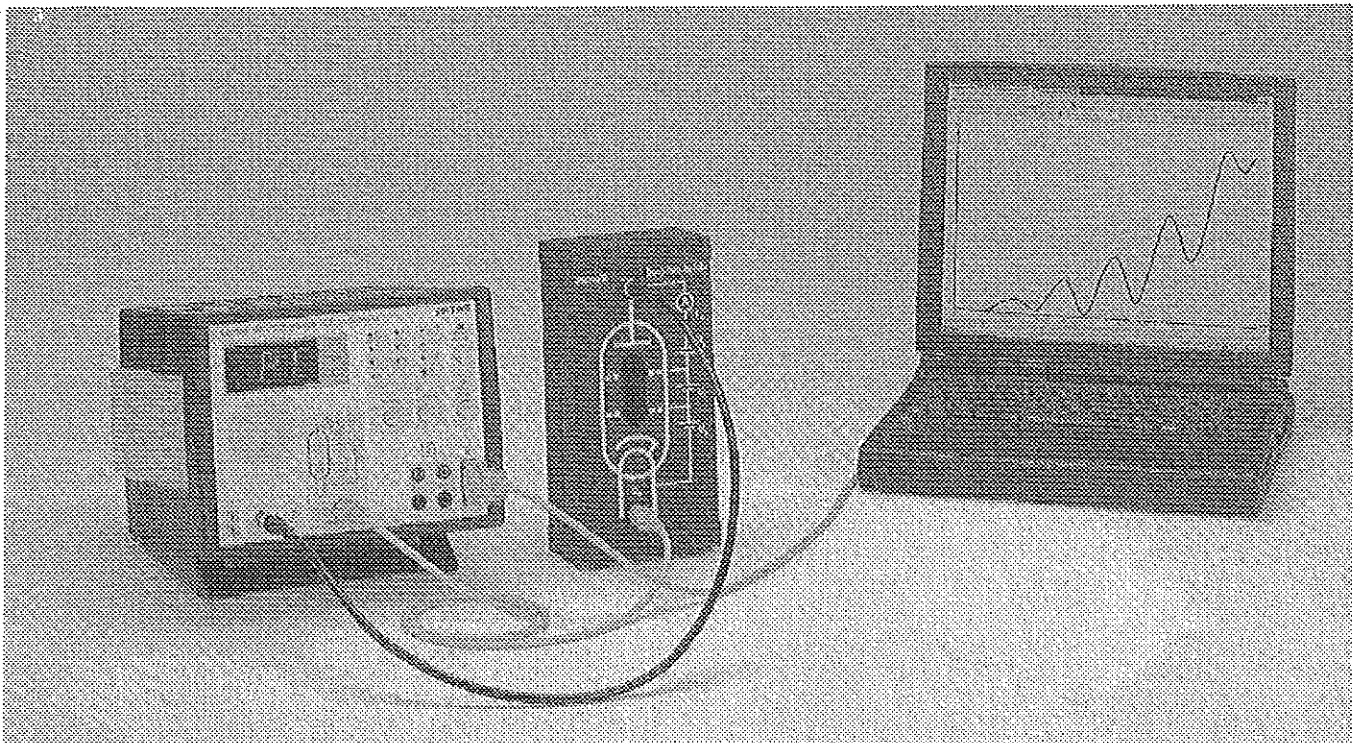

Fig. 7 Complete set-up for Franck-Hertz experiment with the neon tube and a PC
A) Connect the components as described in section 3.2 (see Fig. 7). Turn on the Control Unit at the on/off switch. Set to "PC" with pushbutton (3).